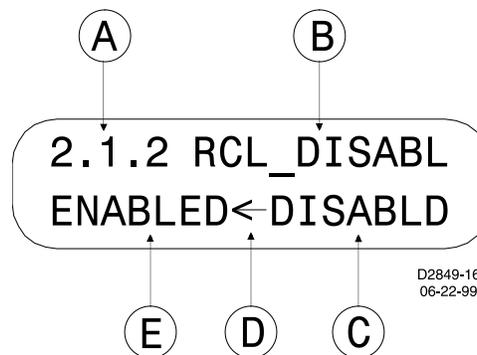

Figure 10-4. Virtual Control Switch 143 Screen
Figure 10-4 shows Virtual Switch 143 as an example of a virtual switch screen. See Section 4, *Protection and Control*, for more details on the x43 and 101 functions. Table 10-3 describes each of the locators shown on Figure 10-4. The user programmable label for this switch has been set to RCL\_DISABL. The TRUE (closed) state label has been set to DISABLD. The FALSE (open) state label has been set to ENABLED. The logical mode for this application would be set to Mode 2 (On/Off switch).
Table 10-3. Call-out Descriptions for Figure 10-4
D	An arrow icon indicates the current switch position (status). In Figure 10-4, the status is open (0), which is labeled 'ENABLD'.